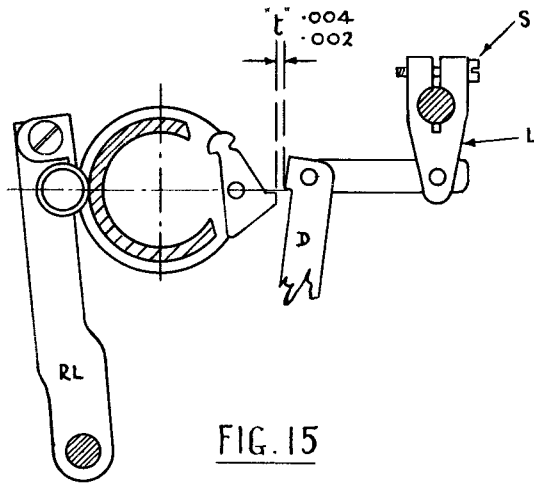

FIG. 15
27. AT "MARK" THE DETENT SHOULD ARREST THE PAWLS. AT "SPACE" DIMENSION "t" SHOULD BE SATISFIED. ADJUST BY MOVING THE TRIPSHAFT LEVER L, CLAMPING WITH SCREW S (FIG. 15)